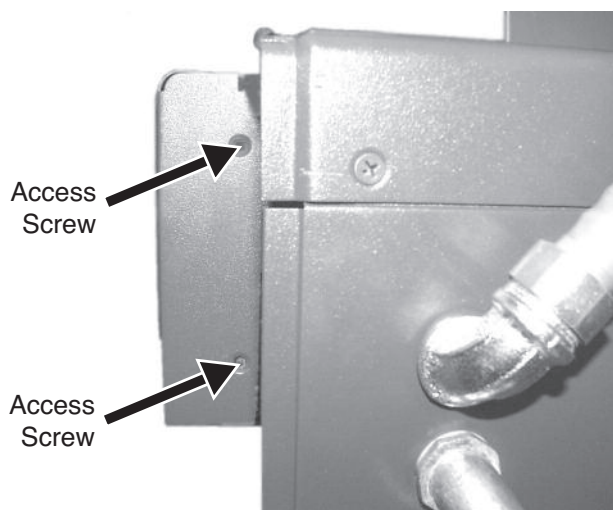

Fig. 17
17. Remove the (4) Phillips screws that hold the control panel to the heater and lower the control panel. See Fig. 17.
22. Reinstall the (4) Phillips screws that hold the control panel to the heater. See Fig. 17.